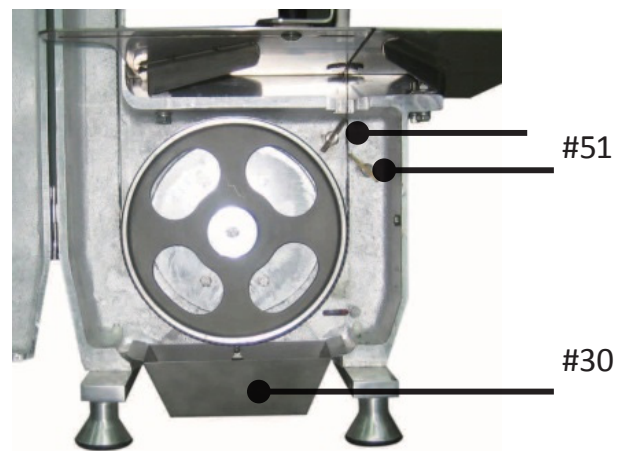

Fig. 3
1. Before using the machine, check the scraper to ensure that it leans against the blade, but ensure that it does not touch to the teeth of blade. The scraper removes the meat scraps from the blade when the machine is working. Empty the scrap tray (#43) regularly. (See below Fig. 3)